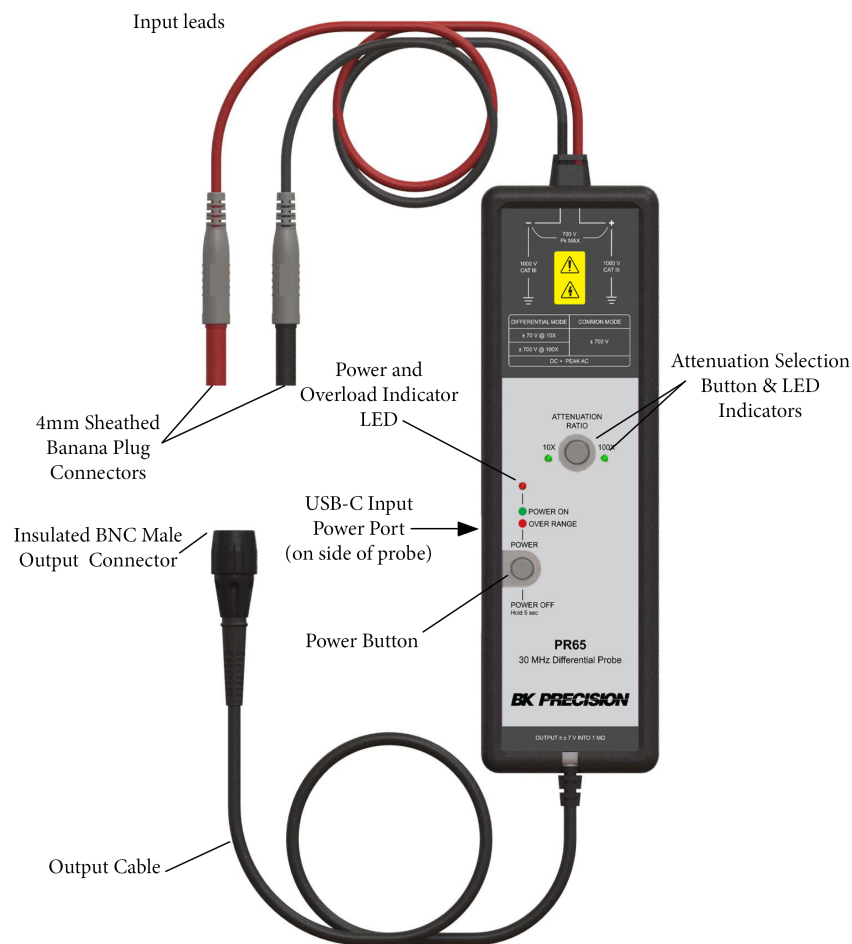

Figure 3.1 Probe and Supplies Accessories
Both probes are compatible with any oscilloscope with a 1 M Ω BNC female input and feature up to 30 MHz of bandwidth. The probes can be powered by any oscilloscope USB port, internal batteries (4 AA batteries included with the probe), or included mains power adapter. **Figure 3.1** shows some key features of the PR65 Series probe.
Step 2. OR, connect the USB power cord to the probe (see figure 3.1 for the location of the input jack on the probe) and a USB port on the oscilloscope or to the Power Adapter plugged into a mains circuit.